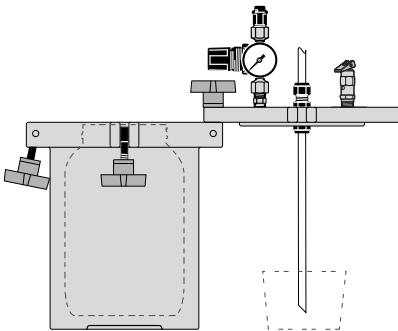

Figure 2.
2. Actuate the air relief valve ②. Hold the relief valve open until any hissing sounds end.
3. Confirm that the indicated gauge pressure is zero ③. If the gauge reads zero, slowly release the cover clamps ④ and remove the cover as shown in Figure 2.
3. Remove the tank cover and temporarily store it by reattaching one of the clamps (Figure 2). When refilling the tank, use a cup (not included) to catch any excess material that drips from the feed tube.